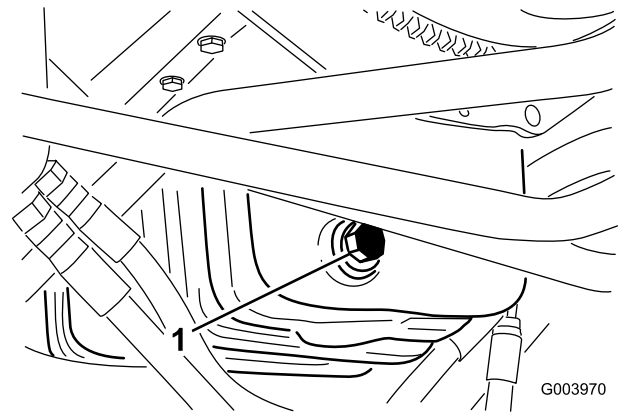

Figure 48
- Remove the drain plug (Figure 48) and let the oil flow into a drain pan.